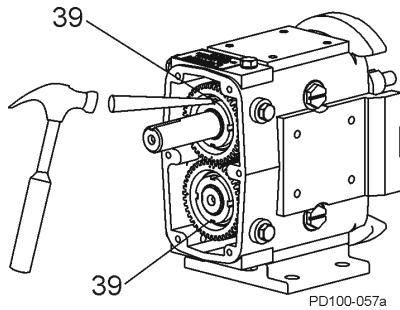

Figure 38 - Straighten Lock Tab on Lock Washers
6. Straighten the tab on the lock washers (Figure 38, item 39).